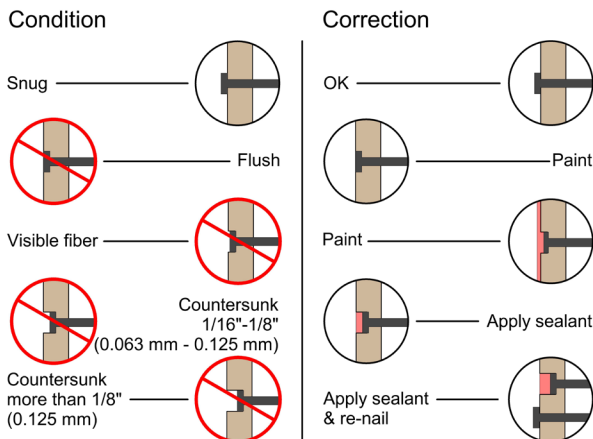

Figure 3
- Caulk exposed nail heads where recommended. (Figure 3)
- Nail head should seat snug to face of cladding, but not be flush to distort the siding surface. (Figure 3)